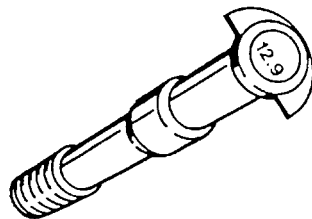

Figure 1
- A. Tightening procedure for new version bolts 12.9 marking on the bolt head (Figure 1).